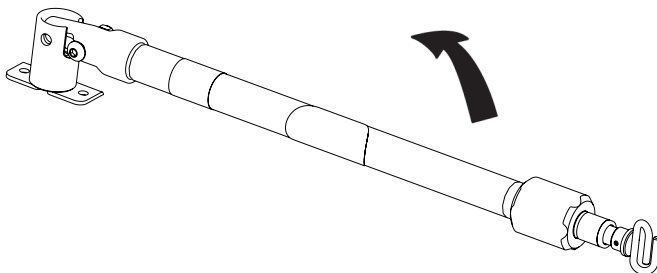

Figure 29.1: 2-Stage I.V. Pole Storage Position
1. Lift and pivot the pole from the storage position and push down until it is locked into the receptacle (A).
2. To raise the height of the pole, turn the lock actuator (B) counterclockwise and pull up on the telescoping portion (C) of the pole to raise it to the desired height.
3. Turn the lock actuator (B) clockwise to lock the telescoping portion in place.
4. Hang the I.V. bags on the I.V. hook (D).
5. Turn the lock actuator (B) counterclockwise and slide section (C) into the bottom tube.
6. Turn the lock actuator (B) clockwise to tighten.
7. Lift up and pivot the pole down into the storage position as shown in Figure 29.1.